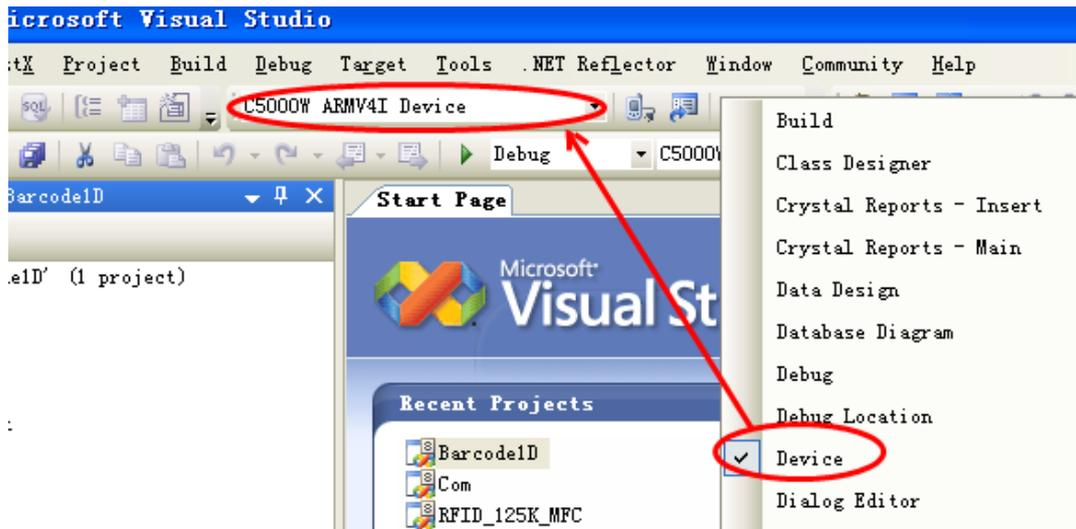

Figure6.1-9
10) Click **Finish** in Figure6.1-8 to finish installing SDK. When installation is done, you can see **C5000 ARMV4I Device** on **DEVICE** section in Visual Studio as Figure6.1-9.